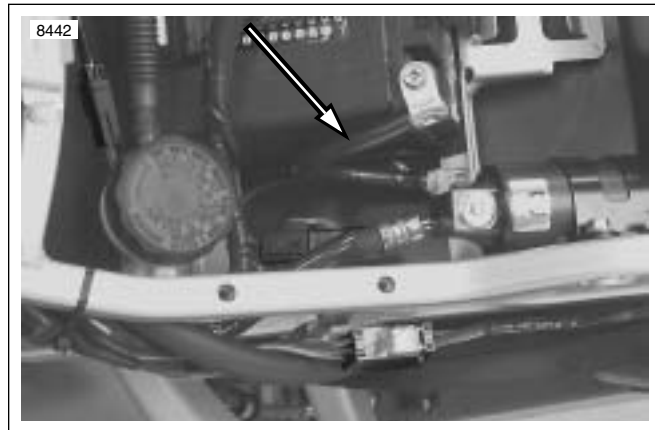

Figure 7-45. Negative Battery Cable
3. Connect tester leads to battery posts and place induction pickup over negative (black) cable. See Figure 7-45.
Positive battery cable runs from starter post to positive battery terminal. Negative battery cable runs from frame to negative battery terminal. See Figure 7-45.